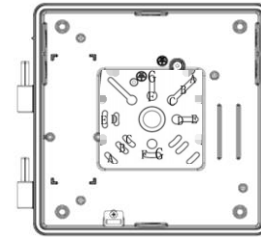

Fig.1
1. Unscrew the four (4) screws of fixture main body. Remove fixture body from back box. Confirm junction box size prior to removing the gasket material for the application (Fig.1). **ONLY** remove the gasket material needed for the installation. Mount back box to junction box via supplied hardware or lag bolts. Utilize any junction box pairings for lag bolts (e.g. D-D). Lag bolts provided by others.